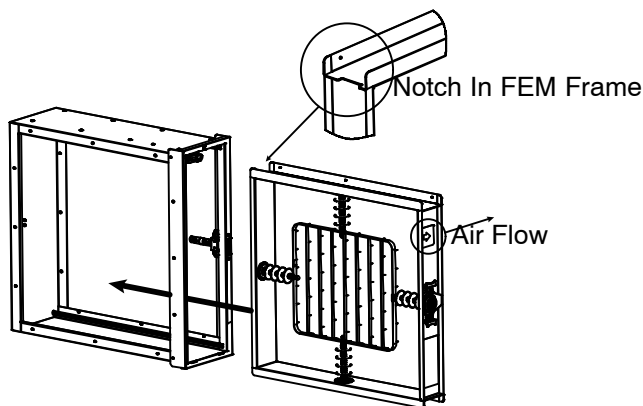

Fig. 15 – Installing FEM
1. Install the Filter Enhancement Module (FEM) into the cabinet, insuring that FEM is held firmly in place by the retention springs and that the high voltage connector/handle is facing outward. See Fig. 15.